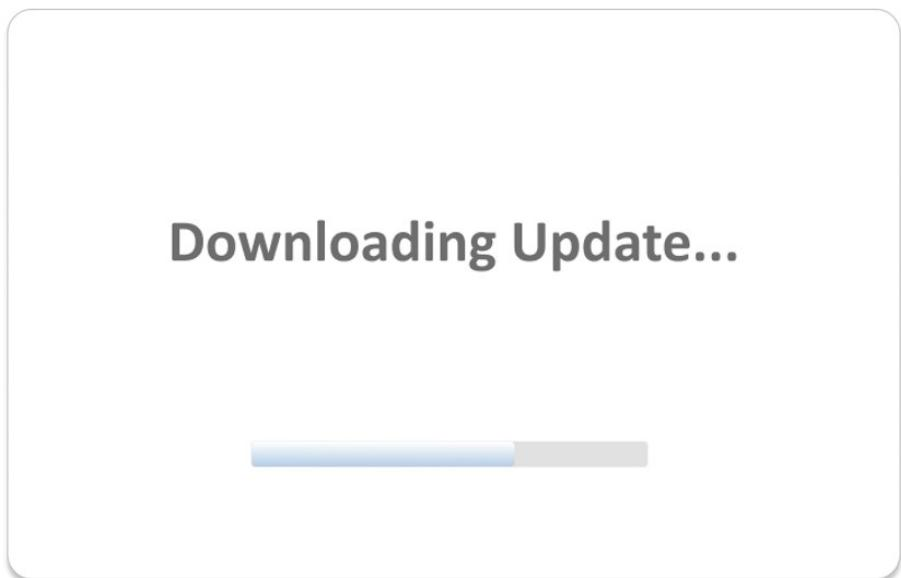

Figure 3-12. Downloading Update
c. Wait for the update to download (Figure 3-12).